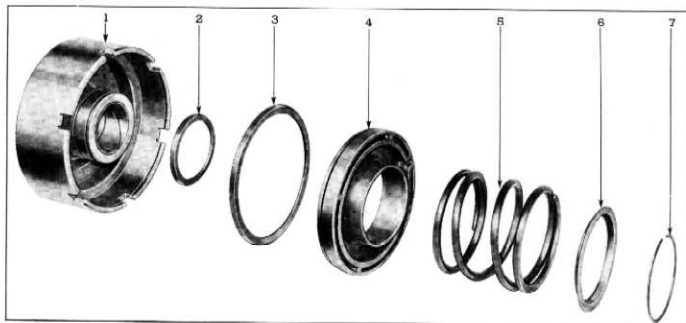

Fig. 181—Layout of Clutch Drum
9. Figure 181 shows layout of clutch drum assembly.